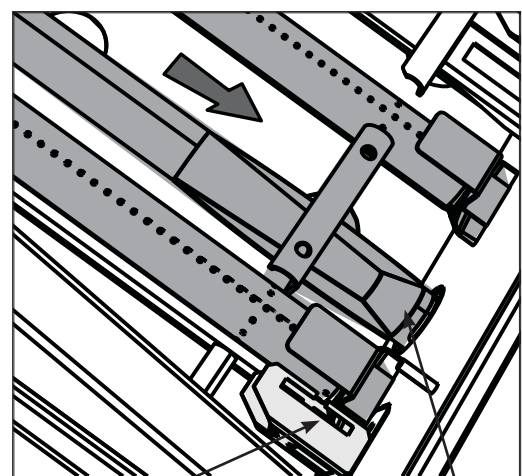

Fig. 58
1. With the burner held at a 45 degree angle front to back, lower each grill burner back into place, ensuring that the burner inlet is centred on the injector inside the valve hole in the front (Fig. 57), and that the burner slides into the collector box on the side, as shown in Fig. 58.